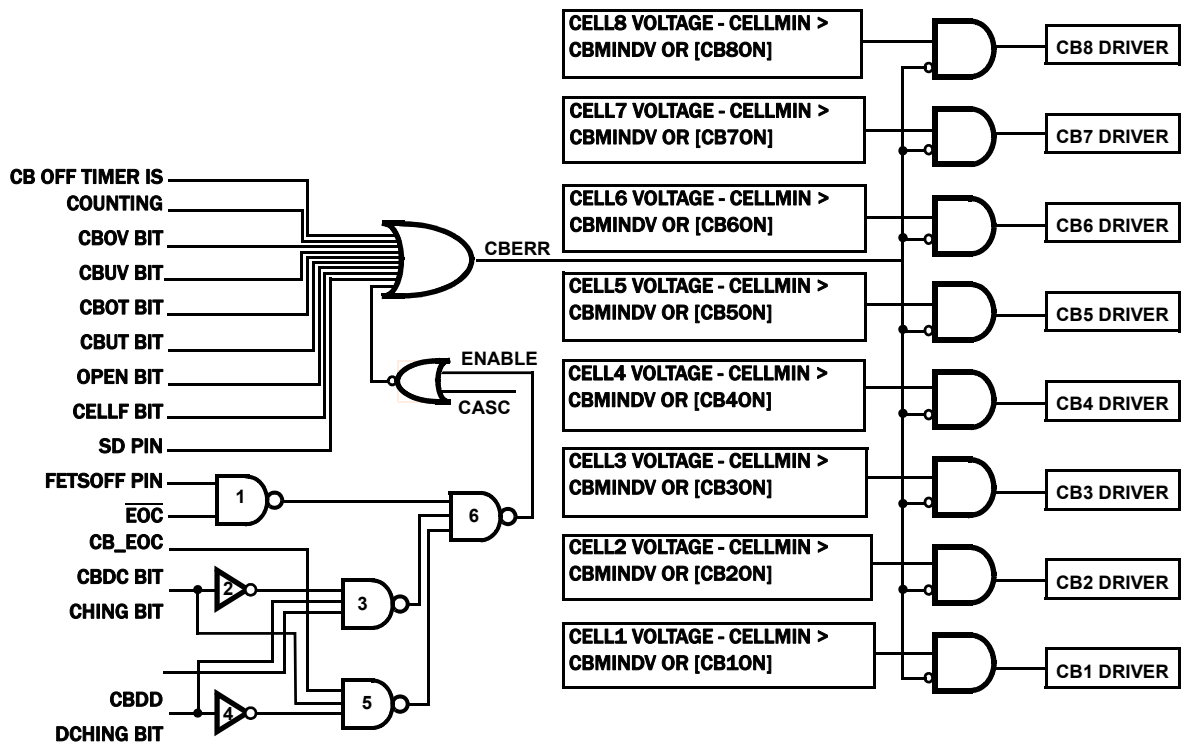

FIGURE 29. CELL BALANCE OPERATION
**TABLE 9. CELL BALANCE TRUTH TABLE (SEE FIGURE 29)**